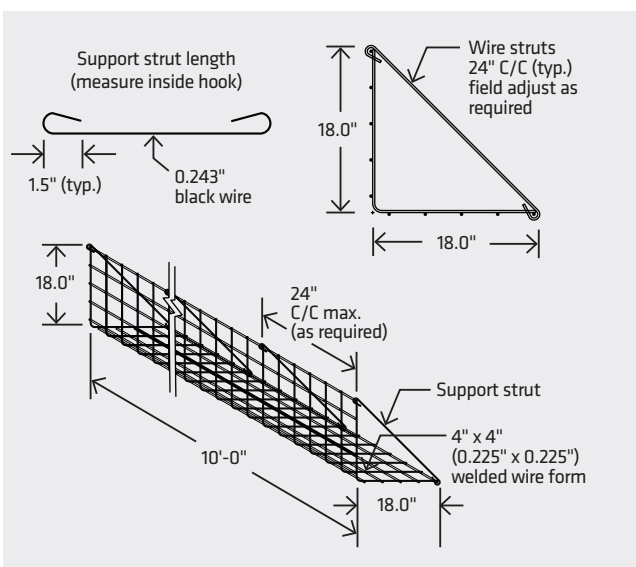

FIGURE 1: Standard 4 in. x 4 in. welded wire form.
- ▶ Tensar® Uniaxial (UX) and Biaxial (BX) Geogrid soil reinforcements which are to be field cut by the Contractor to the various lengths required per the Drawings.
- ▶ Welded Wire Forms (WWF) (if required) – Standard 4 in. x 4 in. wire forms or Strut Indicator Forms (SIF). Figures 1 and 2.